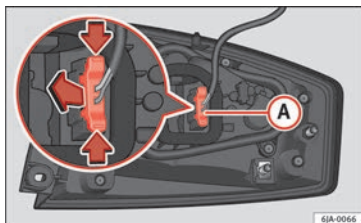

Fig. 99 Light connector at the rear of the rear light unit.
- Disconnect the light connector (A) » Fig. 99 by moving its side levers (arrows) and pulling the connector outwards.